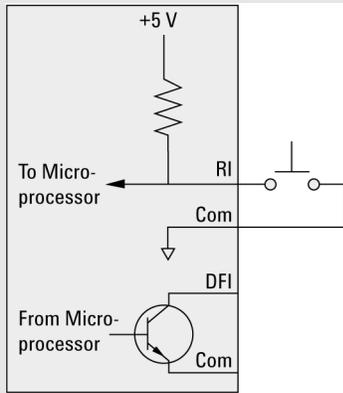

Figure 1. Remote inhibit and discrete fault indicator schematic
Remote inhibit (RI) is an input to the power supply that disables the output when the RI terminal is pulled low (Figure 1). Shorting the normally open switch turns off the supply's output. You could also use a logic chip with an open collector transistor output instead of the switch. Figure 1 also shows the discrete fault indicator (DFI), which you can use to signal an operator or other components in the system whenever the power supply detects a user-defined fault.